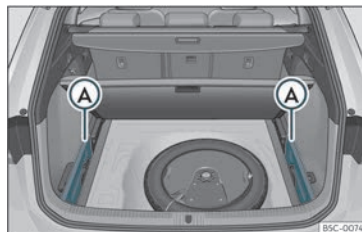

Fig. 111 In the luggage compartment: space to store the retractable shelf.
- Remove the left and right covers >>> **Fig. 111** **A**.